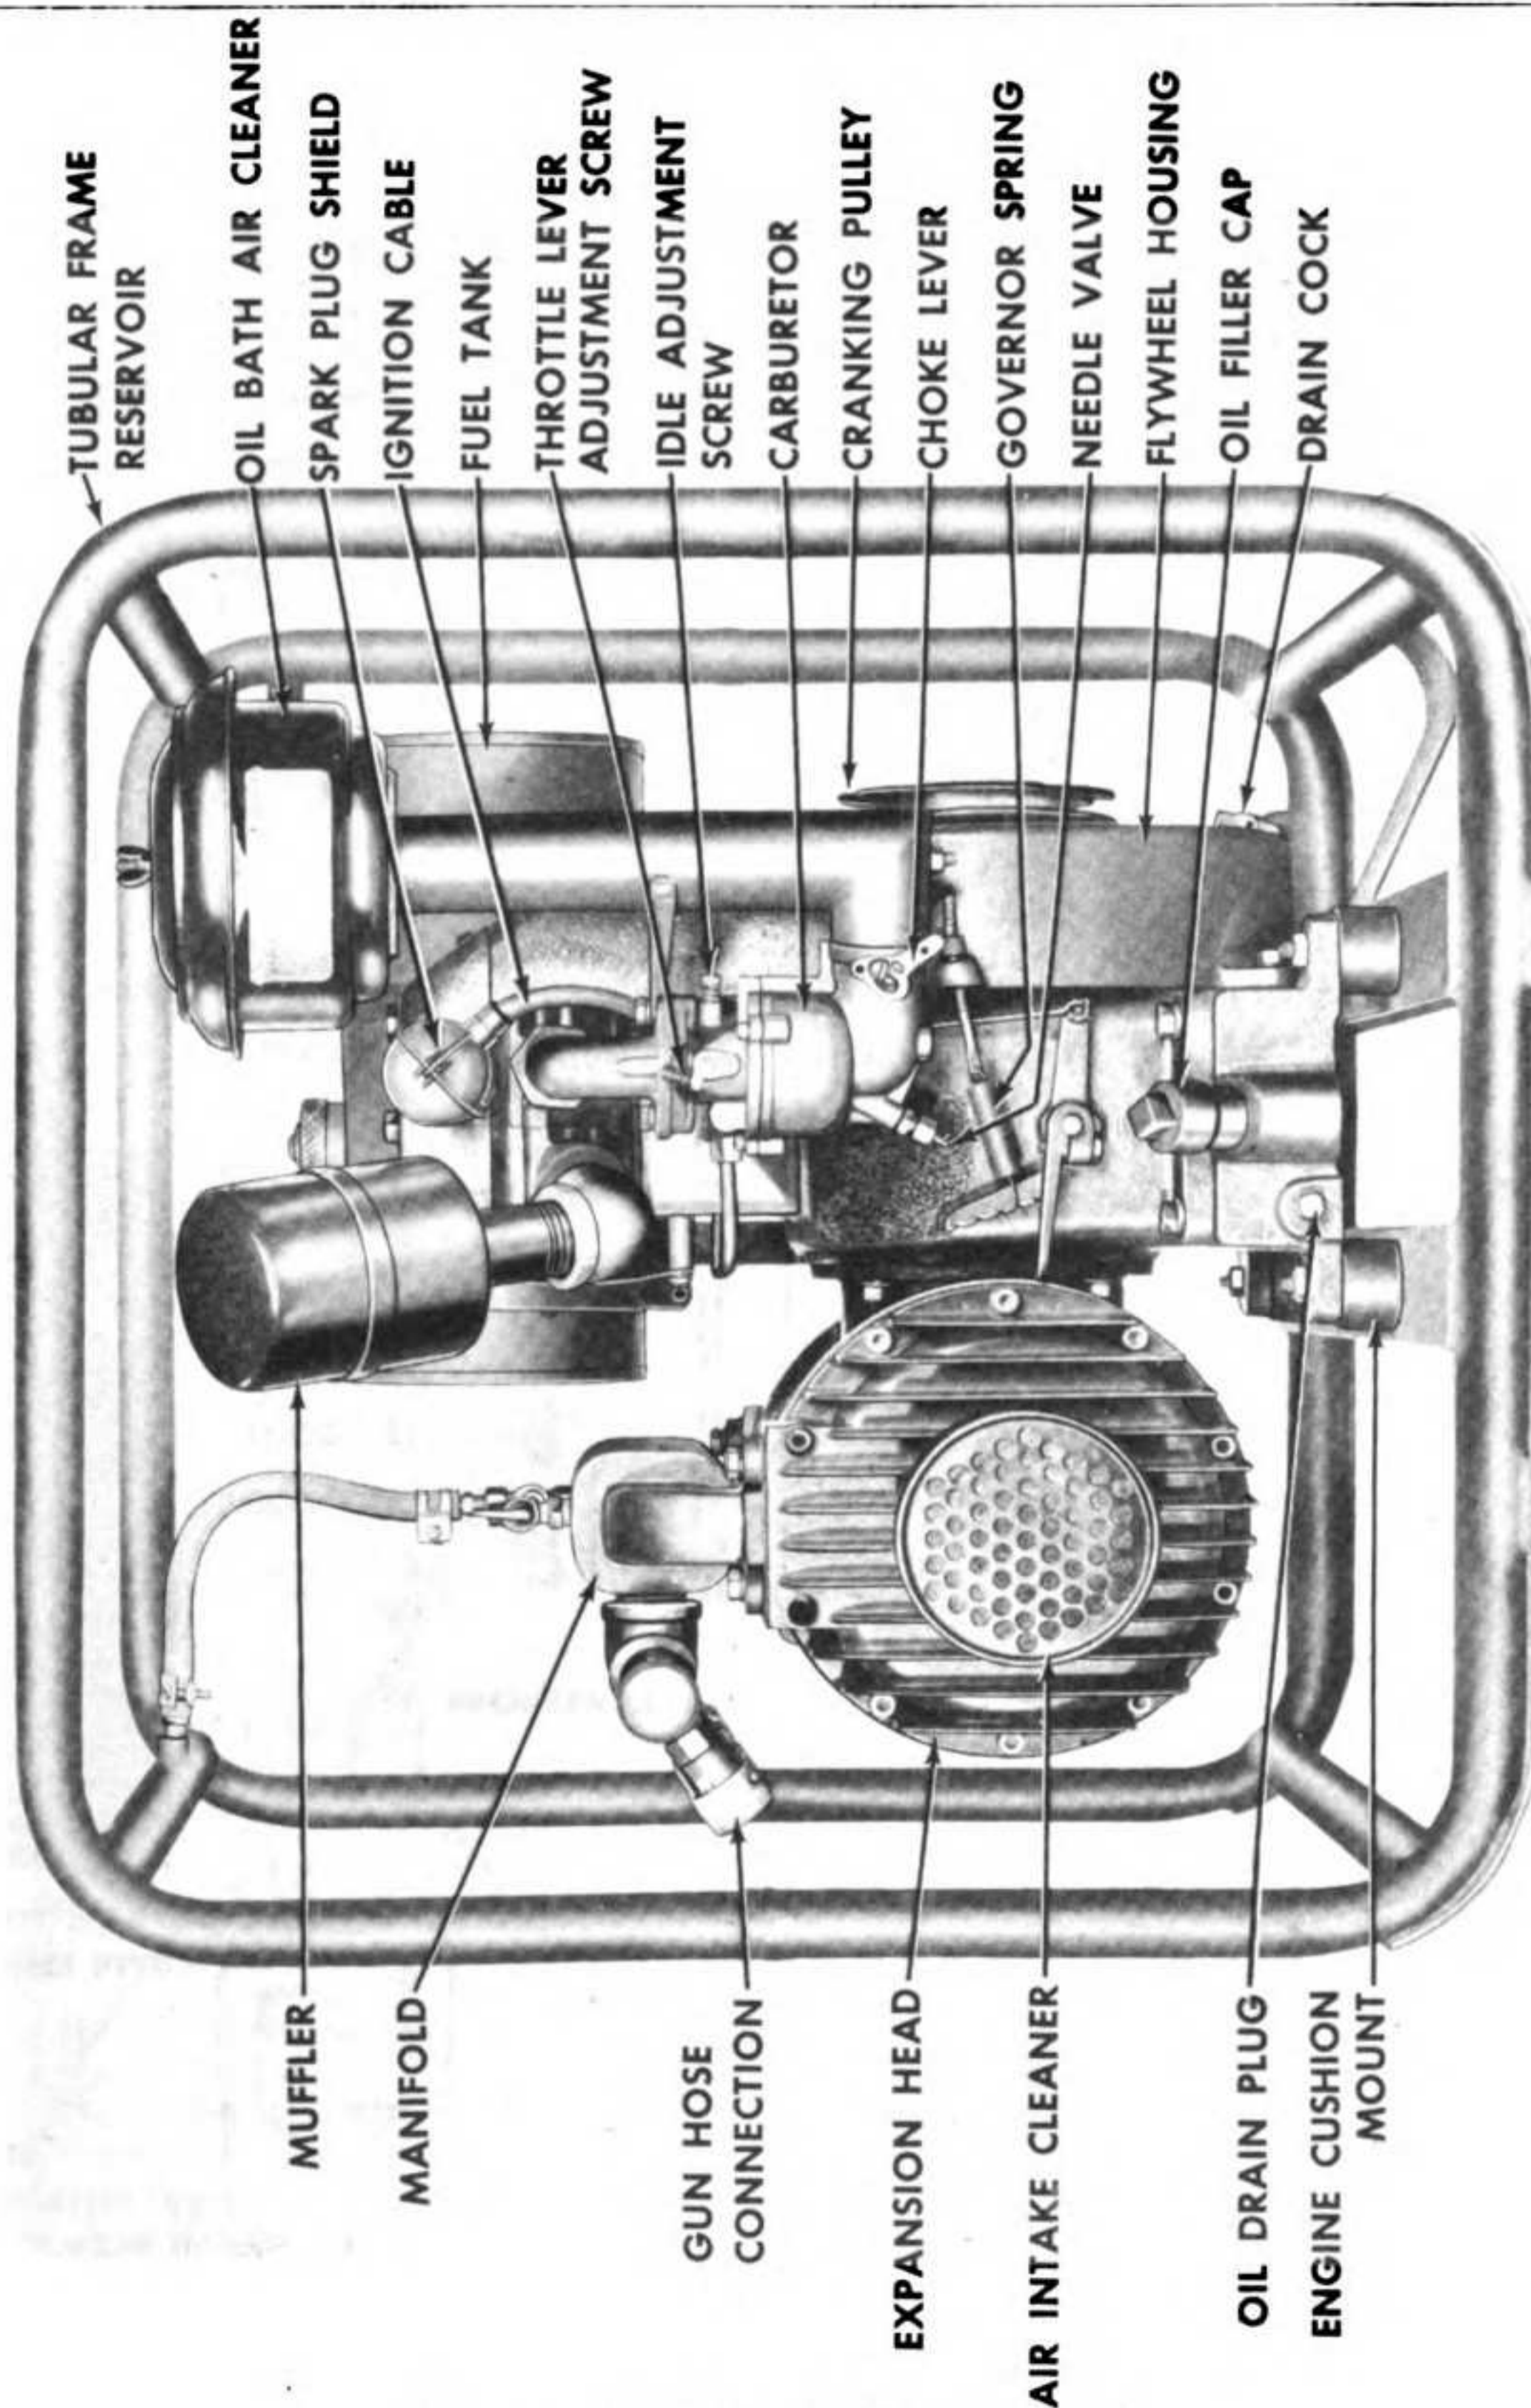
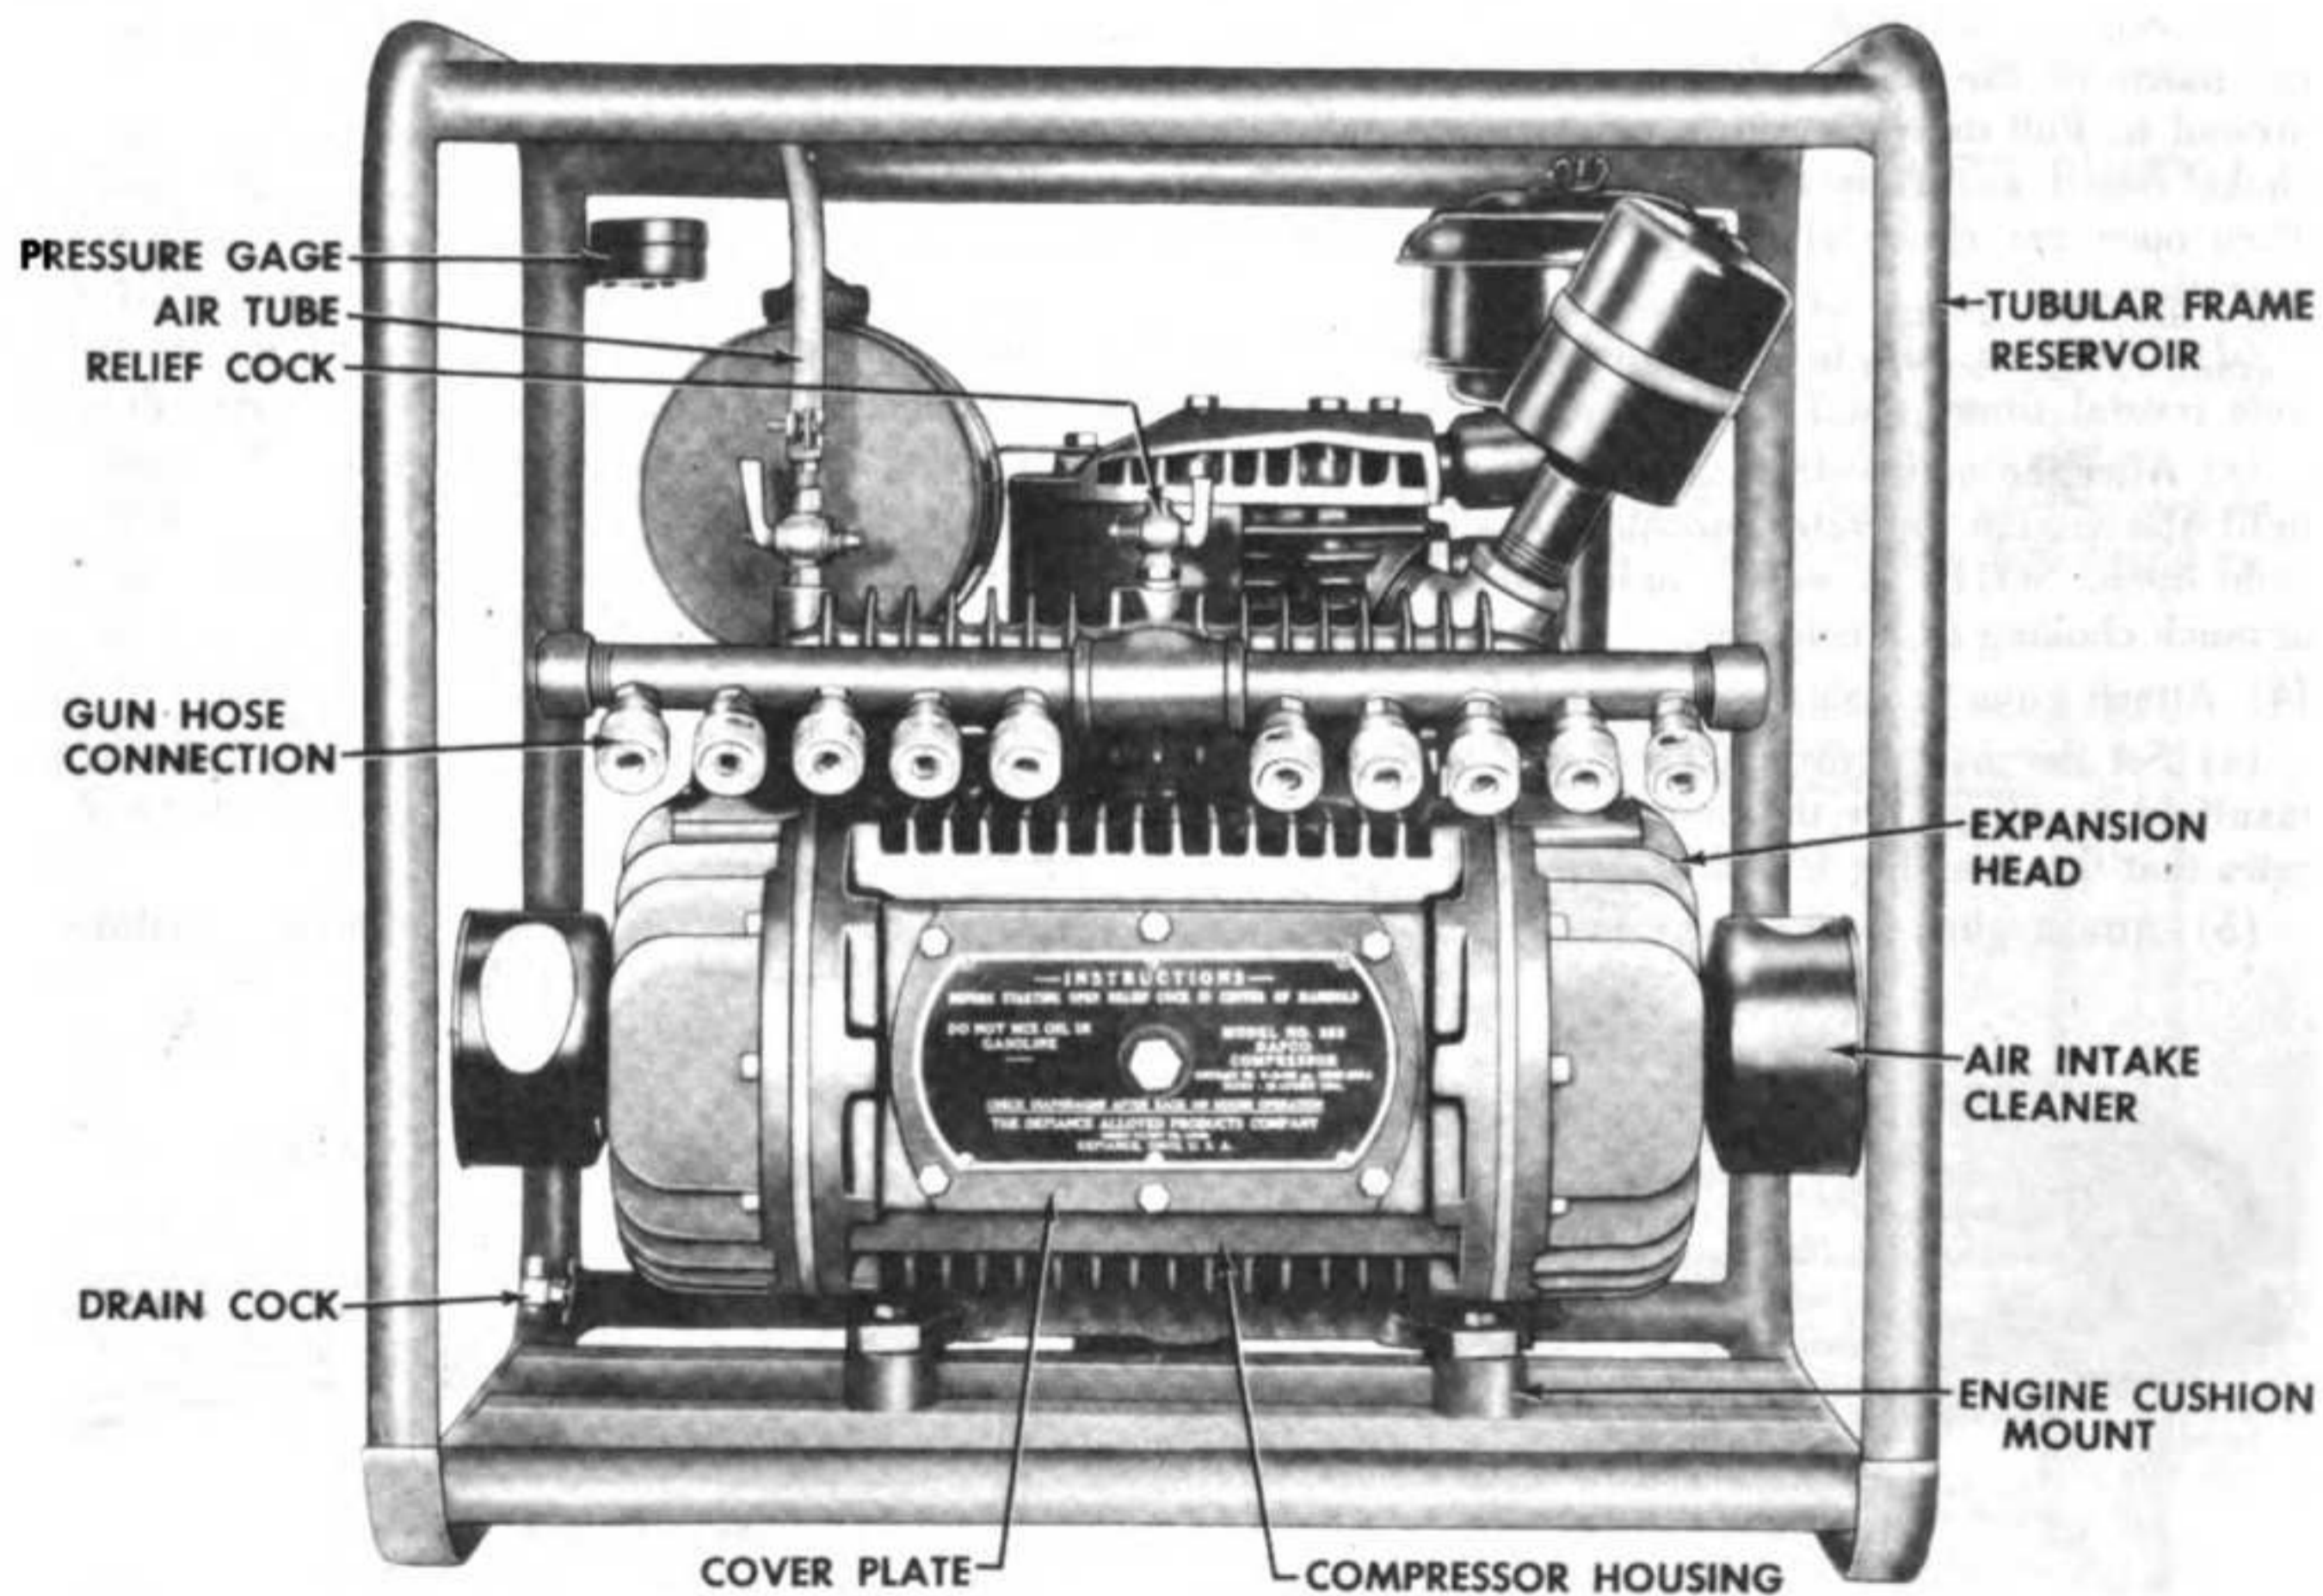

Figure 5—Left Side of Delousing Outfit
Figure 8—Front of Delousing Outfit
(1) FUEL AND WATER. Fill the fuel tank. Inspect engine crankcase oil level; add oil to bring to correct level. (See figure 5.)
(3) AIR CLEANERS. See that the engine air cleaner is in good condition and secure. (See figure 5.) Service in accordance with instructions on Lubrication Order LO 10-1668. Reinstall securely. Be sure the connection to the carburetor is air tight. See that the compressor air intake cleaners are in good condition and secure. (See figure 5.) Service in accordance with instructions on Lubrication Order LO 10-1668.
(4) SUBASSEMBLIES. See that carburetor, blower housing, compressor, compressor manifold, muffler, and spark plug shield are securely mounted. (See figures 5 and 6.)
(5) WIRING. See that the spark plug wire is in good condition and securely connected.
(6) FRAME. See that engine mountings are secure. Inspect frame for good condition, and paint for rust. (See figure 5.)
(7) LUBRICATE. Perform a complete lubrication, covering all points according to instructions on Lubrication Order LO 10-1668.
(8) CHOKE. Be sure choke opens and closes fully. (See figure 5.)
(9) ENGINE WARM-UP. Start the engine and note whether the engine has any tendency toward hard starting. During warm-up, gradually reset the choke lever to operate the engine smoothly and prevent over-choking and oil dilution.
(10) INSTRUMENT. Observe the air pressure gage to determine whether pressure builds up in the tubular frame reservoir. (See figure 8.)
(2) **CHOKE LEVER.** The choke lever is mounted on the carburetor body. (See figure 5.) Pull the choke lever up, or to the right, for OPEN position.
(1) **RELIEF COCK.** The relief cock is located at the top center of the manifold. (See figure 8.) When in closed position, and when the air tube valve is open, air passes into the tubular frame reservoir.
mounted at the upper left rear corner of the tubular frame reservoir. (See figure 8.)
(1) Perform the services outlined in Paragraph 20 before attempting to start the engine.
(2) See that the relief cock on the compressor manifold is in open position. (See figure 8.)
(3) Start the engine.
(b) Completely close the choke, pulling the lever in a clockwise direction. (See figure 5.)